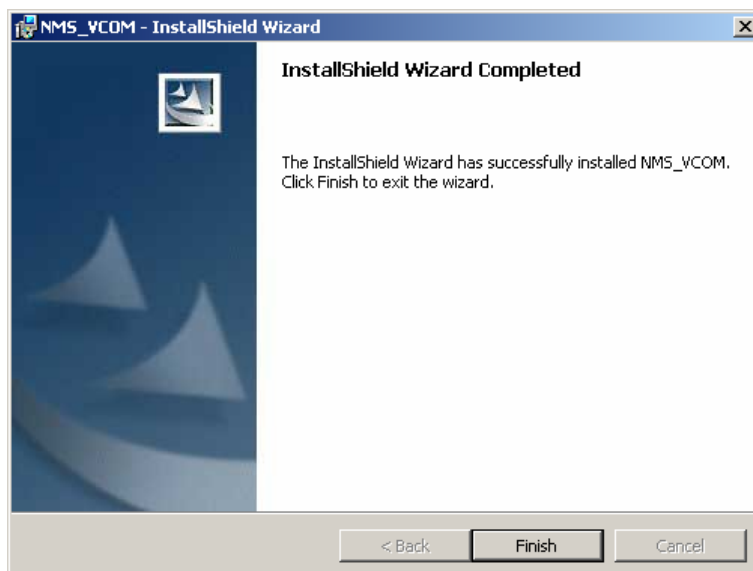

Figure 35. InstallShield Wizard Completed Screen
- Click **Install**. A screen appears as InstallShield installs NMS_VCOM (this may take several minutes). After NMS_VCOM is installed, the InstallShield Wizard Completed screen appears (see Figure 35).